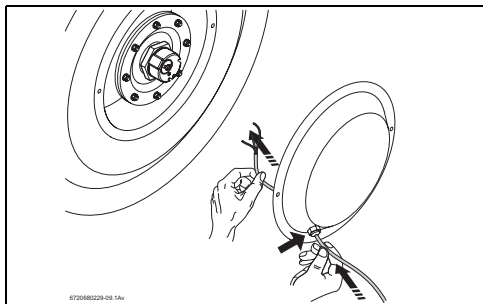

Fig. 7
- ▶ Pass the electric cable through the sealing gland (→ Fig. 7).